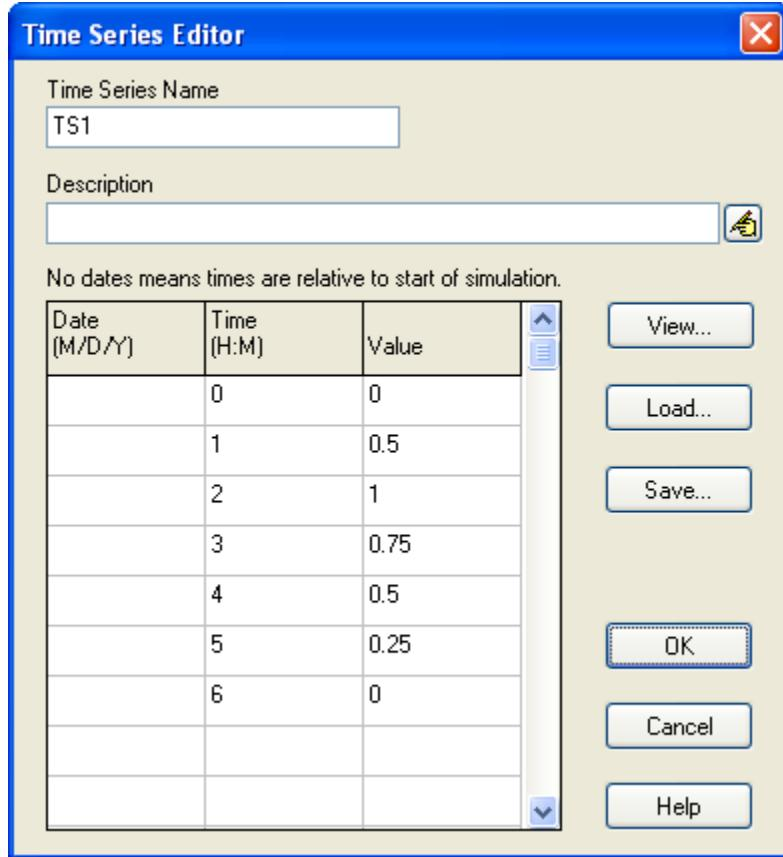

Figure 2-8. Time Series Editor dialog.
2. Click the  button on the Browser to bring up the Time Series Editor dialog (see Figure 2-8)⁵.
4. Enter the values shown in Figure 2.8 into the Time and Value columns of the data entry grid (leave the Date column blank⁶).